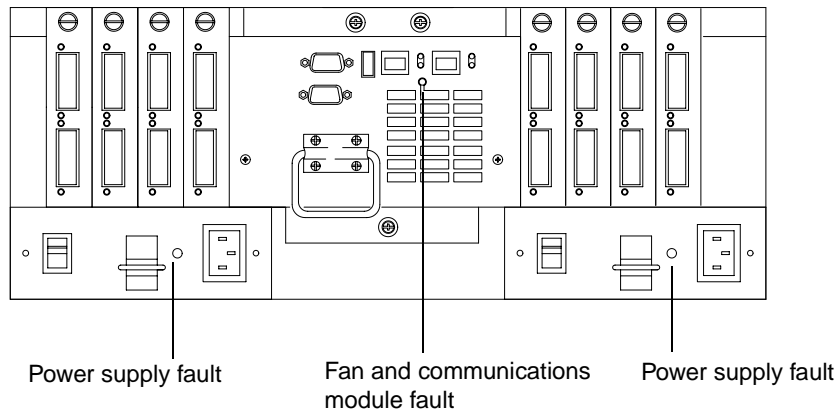

Figure 10. Controller unit indicator lights — back view
- 3** Check the indicator lights on the back of the controller unit, as shown in Figure 10 on page 18 and described in Table 3 on page 19.
The indicator lights on the back of the controller unit are shown in Figure 10 and are described in Table 3.